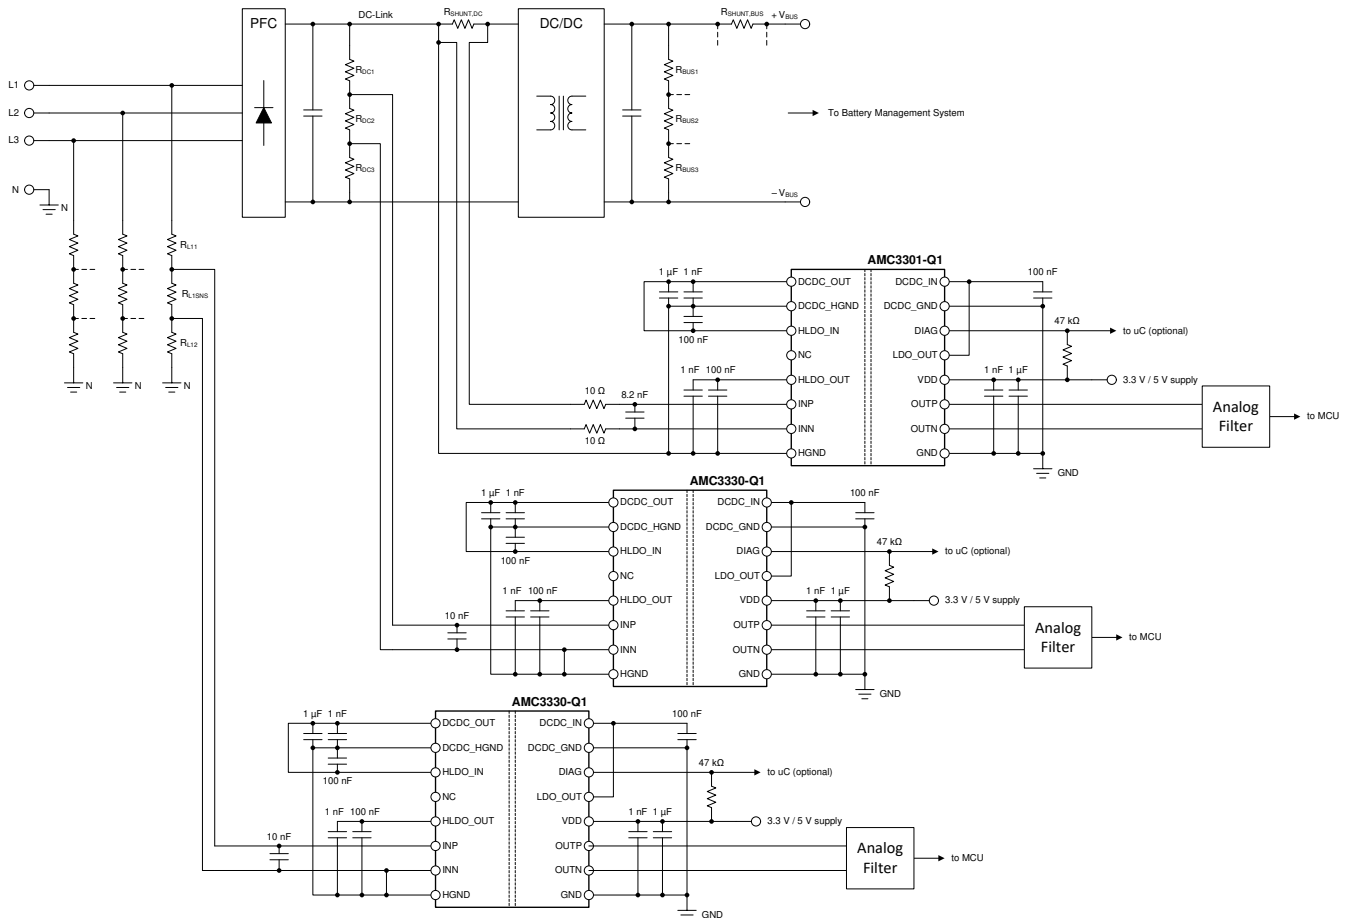

图 8-1. The AMC3330-Q1 in an OBC Application
**Figure 8-1** illustrates a simplified schematic of the AMC3330-Q1 in an OBC where the AC phase voltage on the grid-side must to be measured. At that location in the system, there is no supply readily available for powering the isolated amplifier. The integrated isolated power supply, together with its bipolar input voltage range, makes the AMC3330-Q1 ideally suited for AC line-voltage sensing. In this example, the output current of the PFC is sensed by the AMC3301-Q1 across a shunt resistor on the positive DC-link rail where there is also no suitable supply available for powering the isolated amplifier. The integrated power-supply of the AMC3301-Q1 eliminates that problem and enables current sensing at optimal locations for the system.